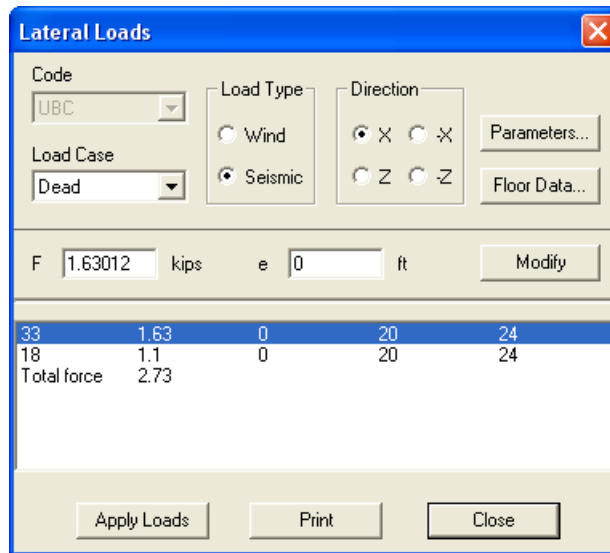

Figure 5-25 Lateral Loads dialog box
- From the **Options** menu, choose **Lateral Loads**. The dialog box of Figure 5-25 appears.